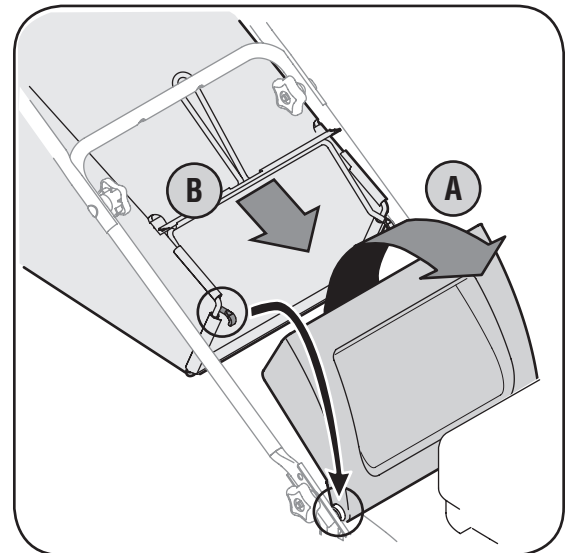

Figure 3-4: Lift discharge door and place grass catcher on rod.
6. Follow steps below to install the grass catcher, Figure 3-4.